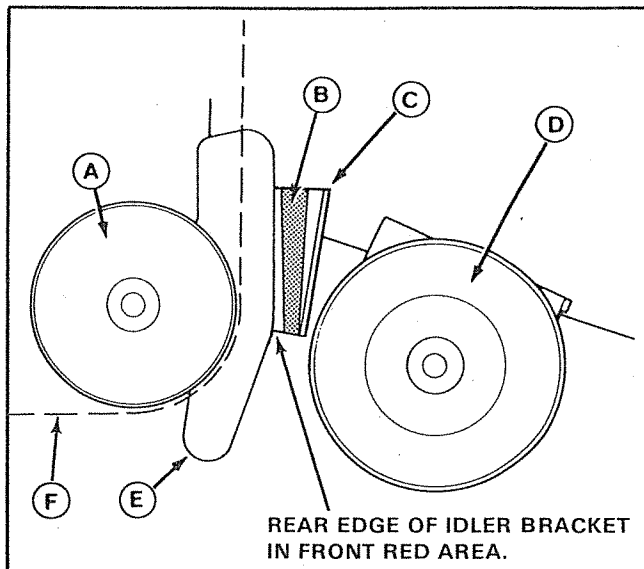

Figure 14. Adjustment
2. Locate the decal on the front idler pulley bracket shown in figure 14. Notice it has a front red zone, a green zone and a rear red zone. The rear edge of the front idler bracket should be in the front edge of the front red area as in figure 14. If not, go on to step 3.
6. The rear edge of the idler bracket should be in the front edge of the front red area as in figure 14. If not, repeat the adjustment procedure.